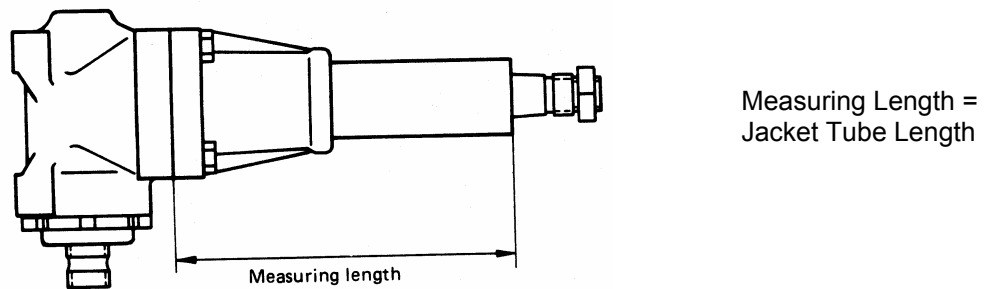

Figure 8. Jacket Tube Length
- 4) **Determination of Jacket Tube Length.** Measure jacket tube length (in mm) as shown to the point where the jacket tube flange mates to the housing (Fig. 8).